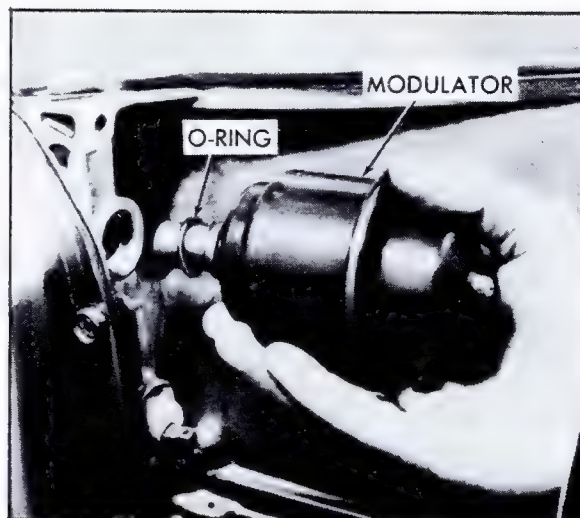

Fig. 7-152 Removing Vacuum Modulator and O-Ring
2. Remove modulator assembly and O-ring from transmission case. Remove and discard O-ring from vacuum modulator, Fig. 7-152.